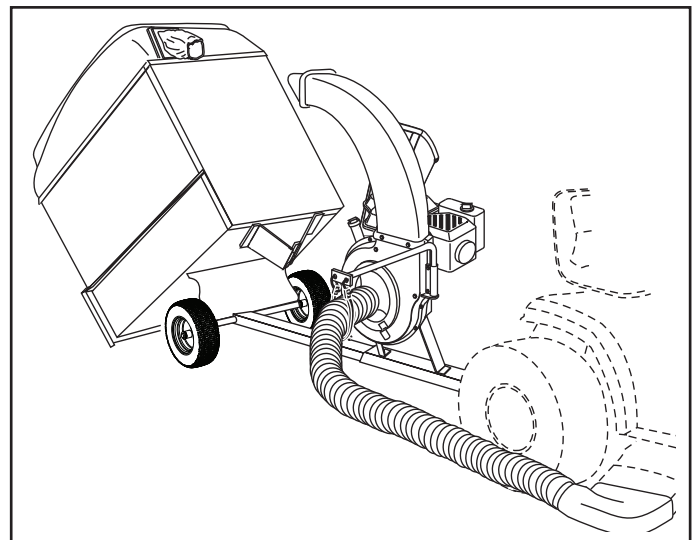

FIGURE 18
6. Release the latch holding cart down to the tongue by pulling up on the latch lever. See figure 18.